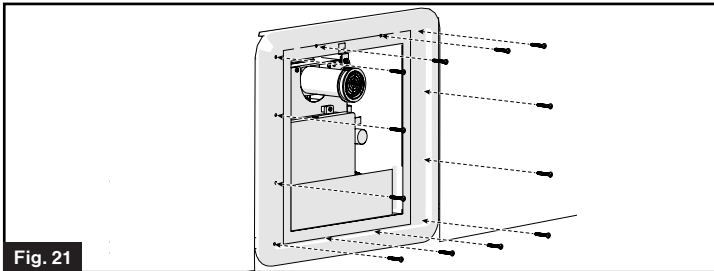

Fig. 21
4. Mount the door frame to the side wall frame using 12 - #8 (min 1") pan head screws (not provided) through each hole along the perimeter. Verify that a tight seal exists between the side wall and the flange. (Fig. 21)